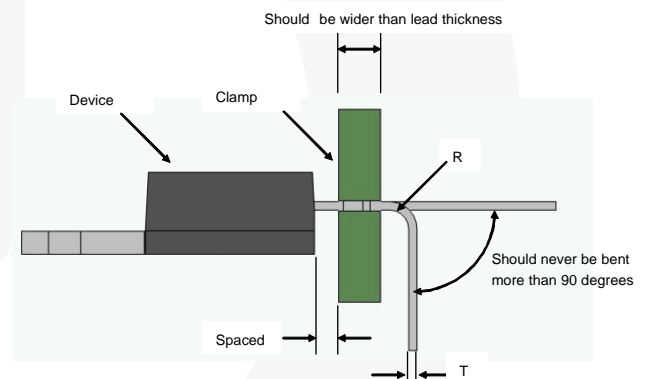

Figure 1. Leadforming
- Clamp all leads firmly and uniformly between the bend and the mold compound, ensuring that the clamp does not come in contact with the mold compound. The clamping area should be greater than the thickness of the leads. Clamp force should be greater than the force required to bend leads to desired form. Leads are normally deformed about 0.03mm to 0.05mm during clamping (see Figure 1).
- The bend radius (R) should always be greater than the thickness (T) of the lead terminal (see Figure 1).
- The leads should never be bent more than 90 degrees (see Figure 1).